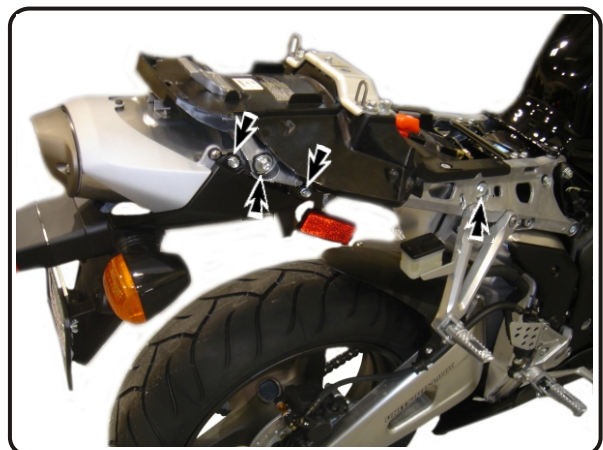

Fig. 3
- 6 Unbolt and remove rear turn signal and fender assembly: rear turn signal connectors (on left rear side) must be disconnected prior to removing fender assembly. (See Fig. 3 & 4)
- 7 Loosen muffler mounting bracket bolts (do not remove). Loosen stock chassis mount bolt (see Fig. 3 for stock chassis mount location).